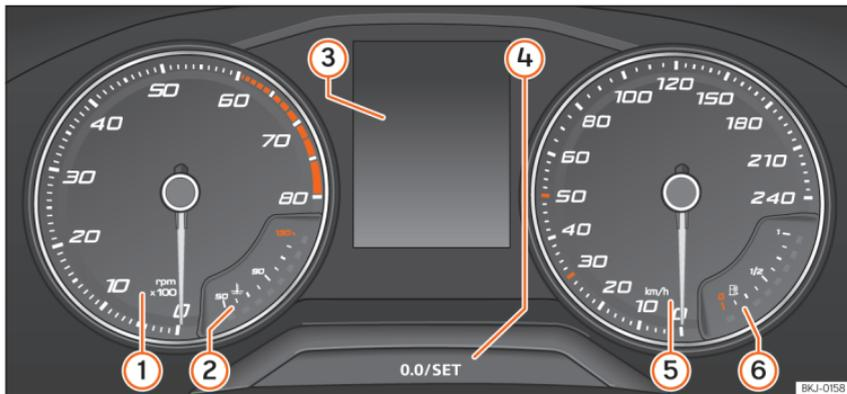

Fig. 68 Instrument panel, on dash panel.
Details of the instruments » **Fig. 68:**
- Briefly press the button **0.0/SET** » » Fig. 68 ④ to reset the trip recorder to 0.
- Keep the button **0.0/SET** ④ pressed for about 3 seconds and the previous value will be displayed.